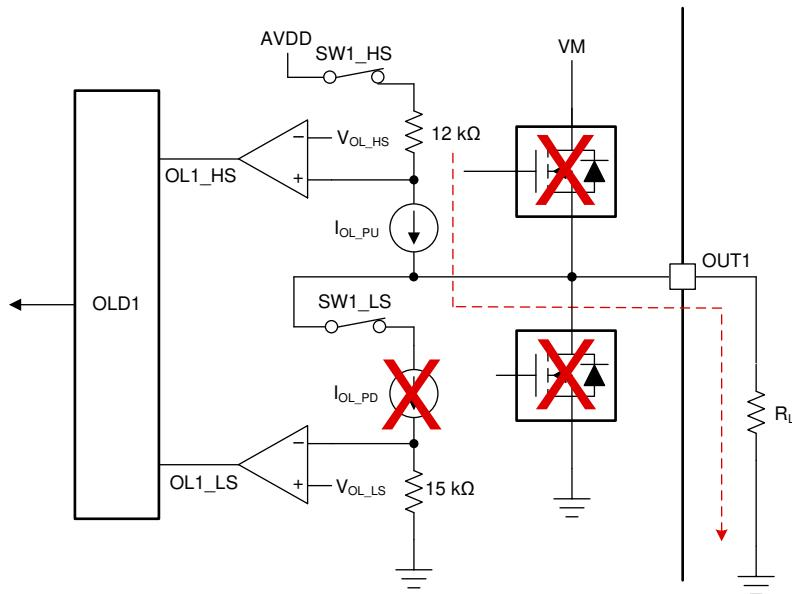
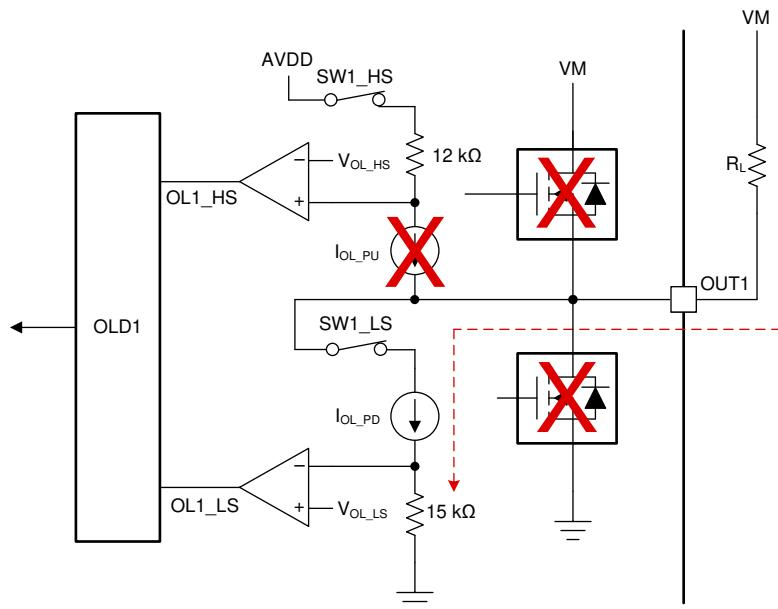

Figure 8-18. Open Load Detect Circuit for Load Connected to Ground (GND)
Figure 8-20. Open Load Detect Circuit for Load Connected to Supply Voltage (VM)
OLD circuit consists of four main components i.e. current source (and current sink), series sequencing switches (sequenced by the digital core), resistors and comparators. For ground (GND) connected load, the current source (I_{OL_PU}) pulls up the OUTx node to internal regulator voltage (AVDD) and allows the current to flow from internal regulator voltage (AVDD) to ground via the connected load as shown in Figure 8-18. Moreover, for the supply (VM) connected load, the current sink (I_{OL_PD}) pulls down the current from supply voltage (VM) to ground via the connected load as shown in Figure 8-20. The resistance of the load connected at the OUTx terminal will change the source / sink current and indirectly the voltage drop across two resistors (12-kΩ and 15-kΩ). This voltage drop across resistors is compared with the reference voltage (V_{OL_HS} and V_{OL_LS}) by the internal comparators to give the output as OL1_HS and OL1_LS. This comparator output is fed to the open load digital circuit to determine the open load condition.
Figure 8-18 shows the ground connected load with internal OLD circuit. When high-side open load sequence is activated (i.e. SW1_HS is on and SW1_LS is off), the current source (I_{OL_PU}) pulls up the OUT1 node to internal regulator voltage (AVDD) and current flows from internal regulator voltage (AVDD) to ground via the connected load (R_L). Now, depending upon if the load is present or not, there can be three cases as follows:
8.2.3.3 OLD for Supply (VM) Connected Load
Figure 8-20 shows the supply (VM) connected load with internal OLD circuit. When low-side open load sequence is activated (i.e. SW1_HS is off and SW1_LS is on), the current sink (I_{OL_PD}) pulls down the OUT1 node to supply voltage (V_{VM}) and current flows from supply (VM) to ground via the connected load (R_L). Now, depending upon if the load is present or not, there can be three cases as follows: